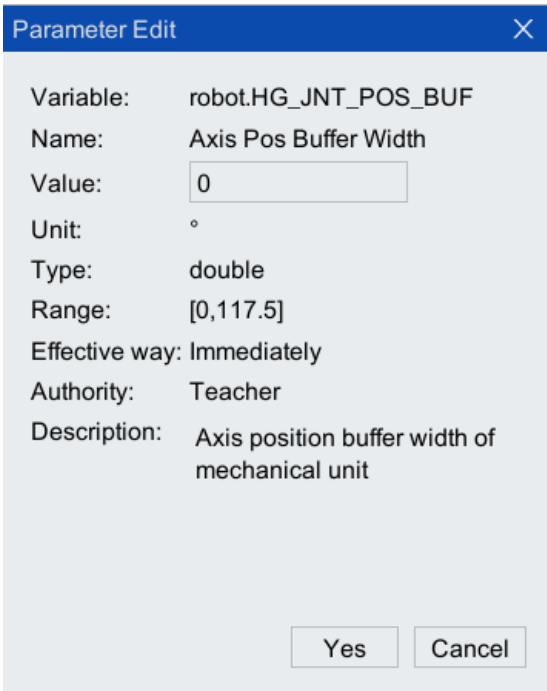

Figure 5-13 Axis position buffer width configuration interface
Step4. In the pop-up [Parameter Edit] interface (as shown in Figure 5-13), configure the [Value]. Parameter description is shown in Table 5-4.